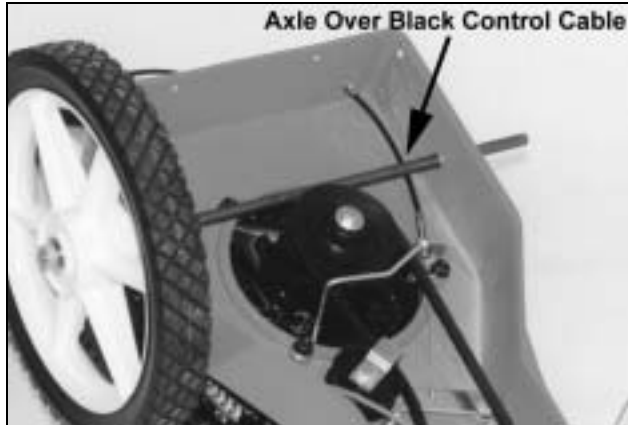

Figure 5
4. Insert the axle through the hole in the bushing in the side of the housing (*Figure 5*). Push the axle through both axle holes in the frame (*Figure 5*). Be sure the axle is over the black control cable.